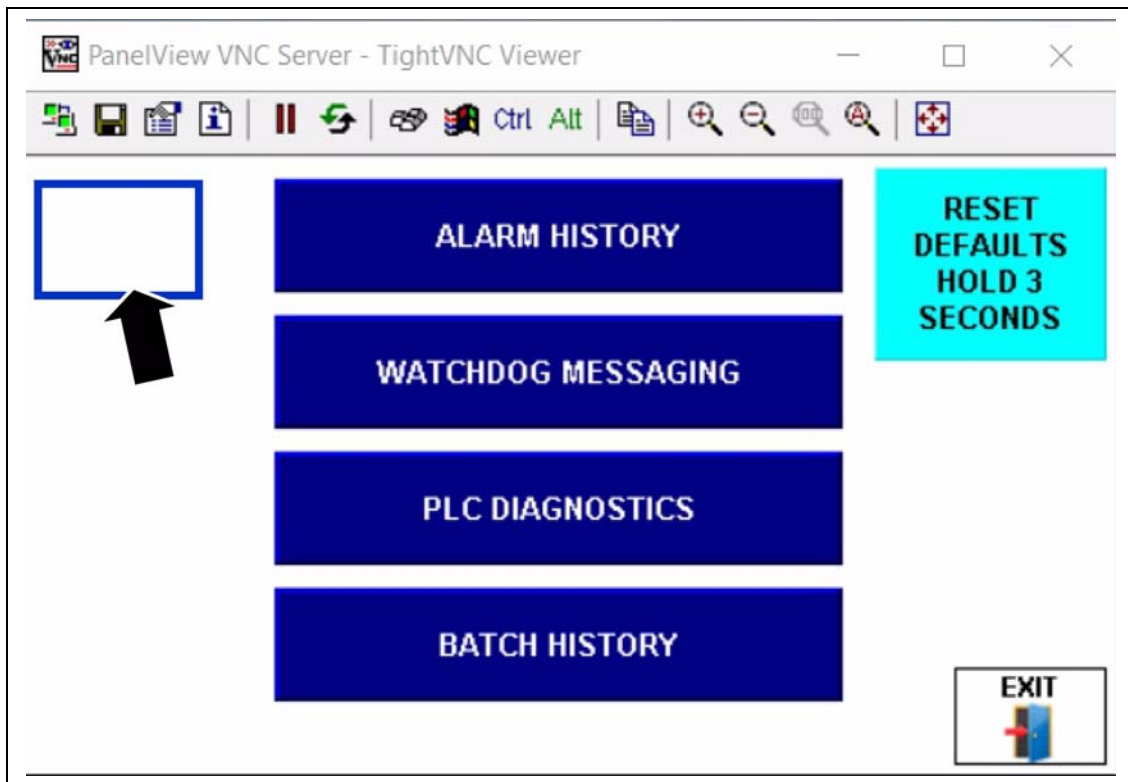

Figure 3B
2. At this screen, press the upper left corner and it will take you to the next screen. (See Figure 3B.)